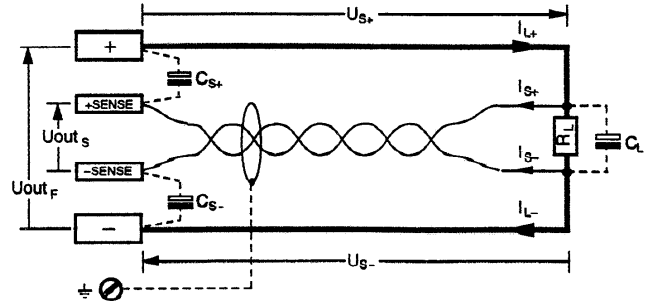

Figure 2.3 Connection to Consumer for Sensing Mode Operation
- The **parameters** and **limit values** listed in **figure 2.3** apply for operation with sensing leads.
- Control oscillation can be counteracted by connecting capacitors (C_{S+}, C_{S-}) between the **SENSE** and the **output terminals** (see figure 2.3).